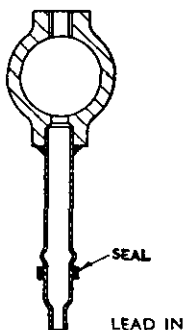

Fig. E.14
3. Refit the push rods and the rocker shaft assembly. The rocker assembly securing nuts or setscrews should be tightened down progressively from the centre outwards to a torque of 32 lbf ft (4,43 kgf m) — 43 Nm for nuts and 55 lbf ft (7,6 kgf m) or 75 Nm for setscrews. A new seal must be used when refitting the rocker oil feed connection. The seal is a square section and should be lightly oiled on its inner and outer surfaces and placed in the appropriate oil feed drilling. On inserting the pipe assembly which has a lead in (Fig. E.14), the seal will butt against the single convolution.